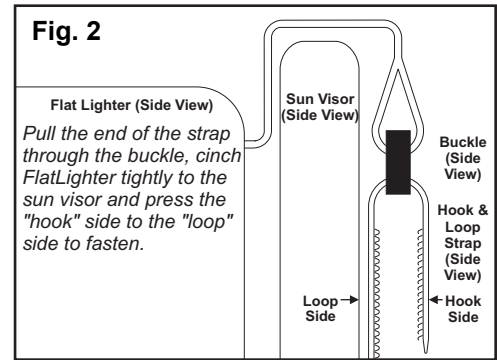

Fig. 2
3. Secure the hook & loop strap on the rear facing side of the visor (*Fig. 2*.)